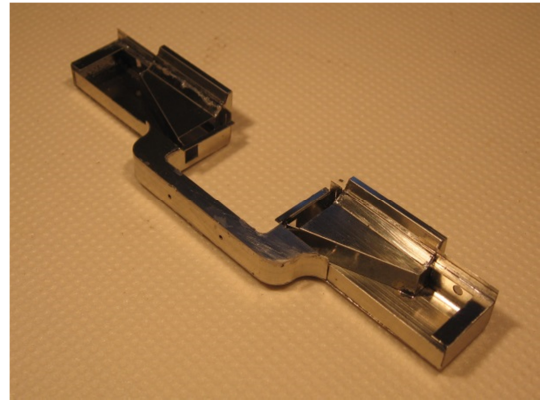

*Fig. 54*
75. The same procedure is used for the top end bunker ( 124). Fig 54.